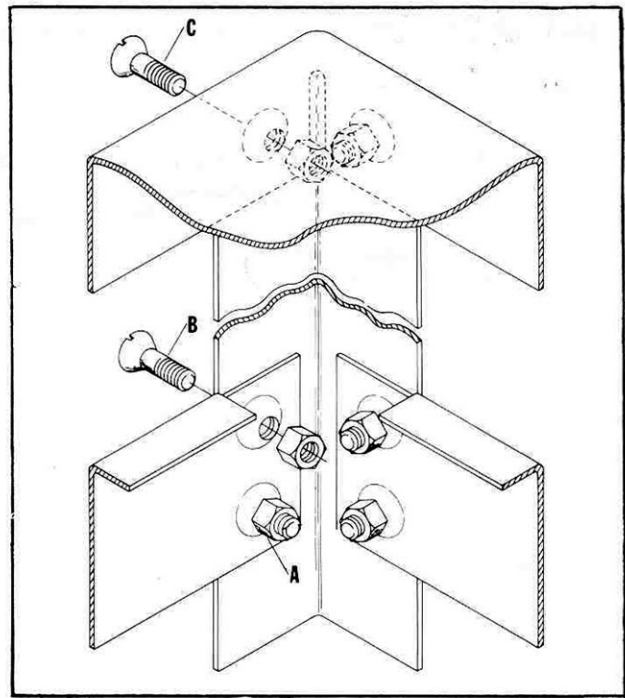

Fig. 6
2. Fig. 6 illustrates the proper relationship of the screws and nuts to the stand. Place the stand on a level surface and tighten the screws and nuts in the following order. First the eight lower tie bar screws and nuts (A), second the eight upper tie bar screws and nuts (B) and third the eight top shelf screws and nuts (C) Fig. 6.